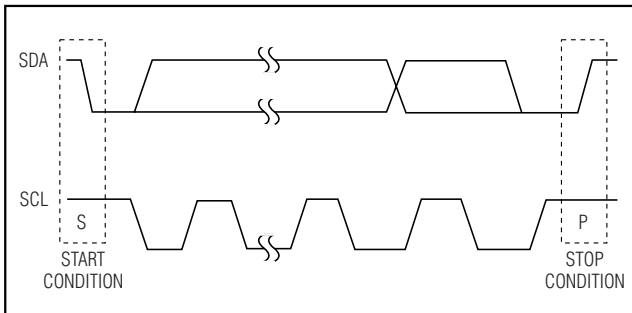

Figure 5. Start and Stop Conditions
Each transmission consists of a START condition (Figure 5) sent by a master, followed by the MAX3353E 7-bit slave address plus R/W bit (Figure 6), a register address byte, one or more data bytes, and finally a STOP condition (Figure 5).
Both SCL and SDA remain high when the interface is not busy. A master signals the beginning of a transmission with a START (S) condition by transitioning SDA from high to low while SCL is high. When the master has finished communicating with the slave, it issues a STOP (P) condition by transitioning the SDA from low to high while SCL is high. The bus is then free for another transmission (Figure 5).